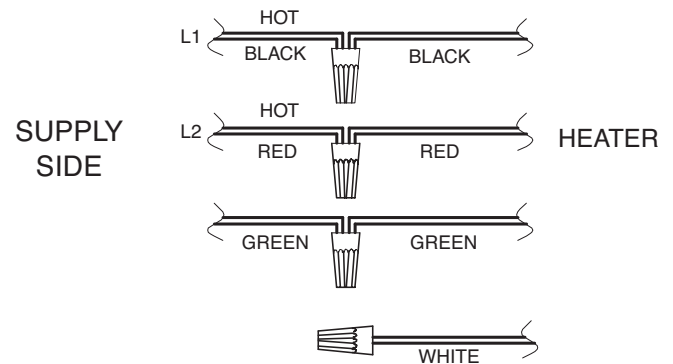

Figure 18. 240V Wire Connection
The heater comes standard with a 120 VAC 3-prong power cord. For 240 VAC applications, see **Figure 18**. Power source must be a wired ground, with ground fault circuit interruption circuitry.
8. Install a wire nut on the white transformer wire. See **Figure 18**.